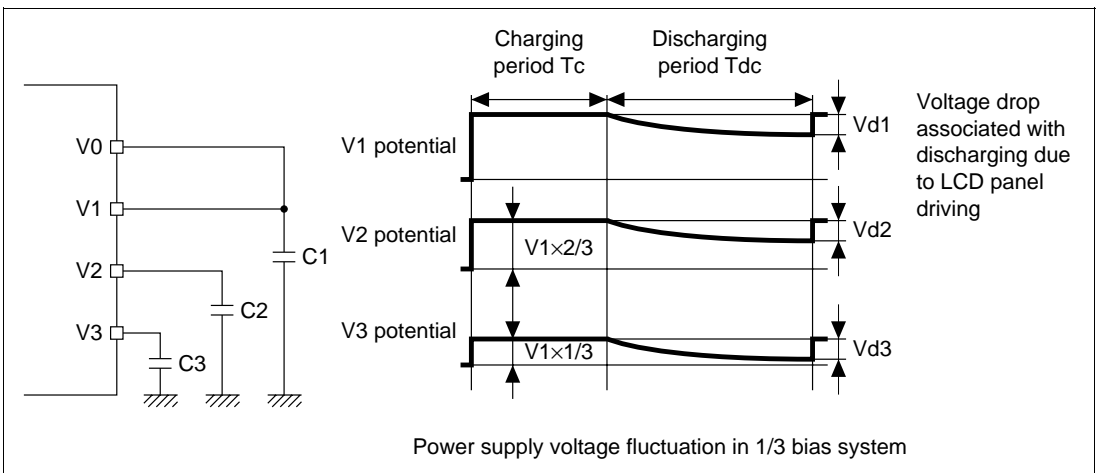

Figure 13-14 Example of Low-Power-Consumption LCD Drive Operation
1. Capacitors are connected as external circuits to LCD power supply pins V_1 , V_2 , and V_3 , as shown in figure 13-14.
2. The capacitors connected to V_1 , V_2 , and V_3 are repeatedly charged and discharged in the cycle shown in figure 13-14, maintaining the potentials.
1. During charging period T_c in the figure, the potential is divided among pins V1, V2, and V3 by the built-in split-resistance (the potential of V2 being 2/3 that of V1, and that of V3 being 1/3 that of V1), as shown in figure 13-14, and external capacitors C1, C2, and C3 are charged. The LCD panel is continues to be driven during this time.
4. In this way, the capacitors connected to V1, V2, and V3 are repeatedly charged and discharged in the cycle shown in figure 13-14, maintaining the potentials and continuously driving the LCD panel.